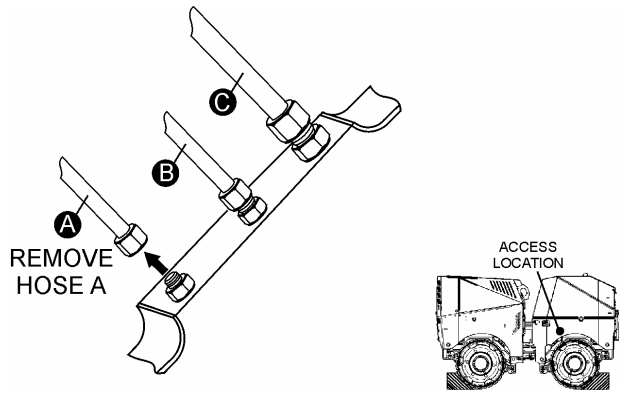

Figure 6. Hydraulic Hose A Removal (Rear Stop Bumper Side)
- At rear stop bumper side of roller, remove hose **A** as shown in Figure 6.